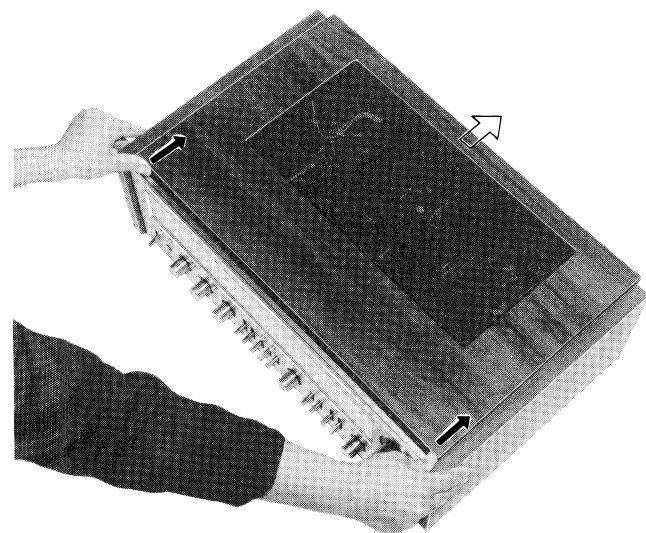

Fig. 6
2. Holding both sides of the set, push the top board forcefully backward (in the direction shown by the arrows in figure 6).